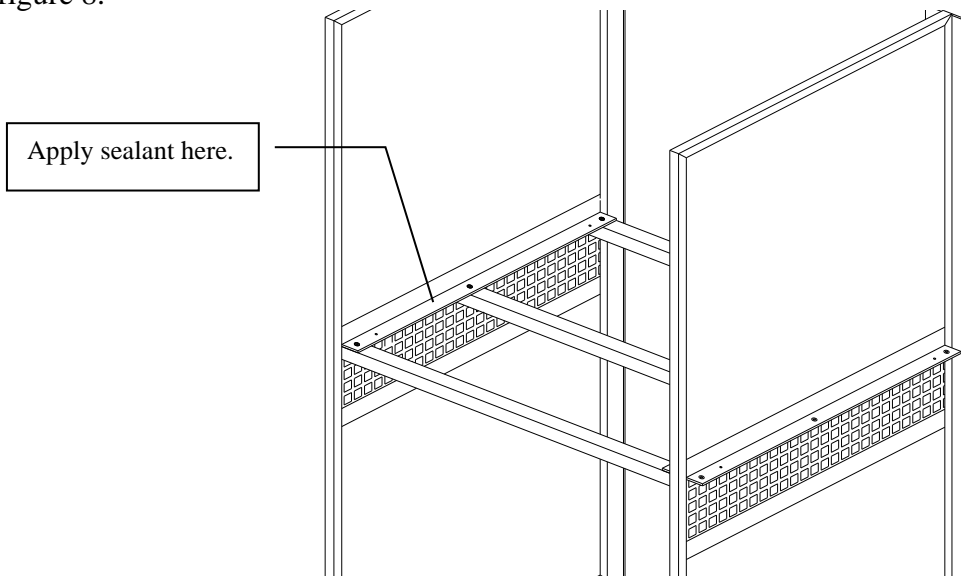

Figure 8
2. Apply a bead of sealant along the top of the support flanges on the division panels. See figure 8.